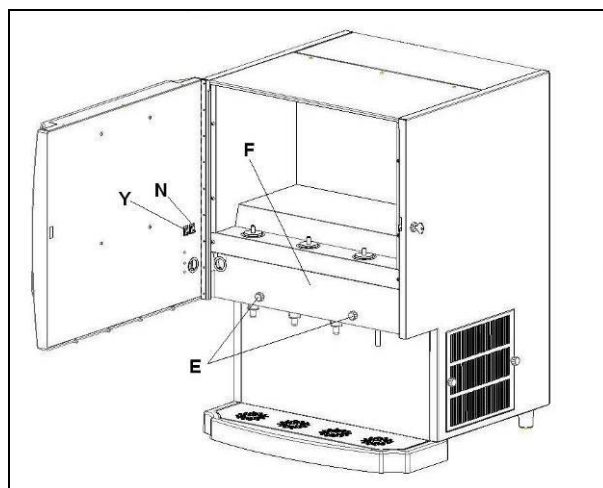

Fig. 8
- The machine's electrical safety is only guaranteed when it is connected to a suitable earth system, structured as provided by the national safety current regulations (fig.8). Therefore, the manufacturer cannot be held responsible for any damage due to failure of the grounding system of the machine.
- For a safe and correct installation, it is essential to provide a suitable socket controlled by a thermal cut-out switch whose contacts are at least 3 mm apart, in accordance with the current national safety regulations (see fig.8).